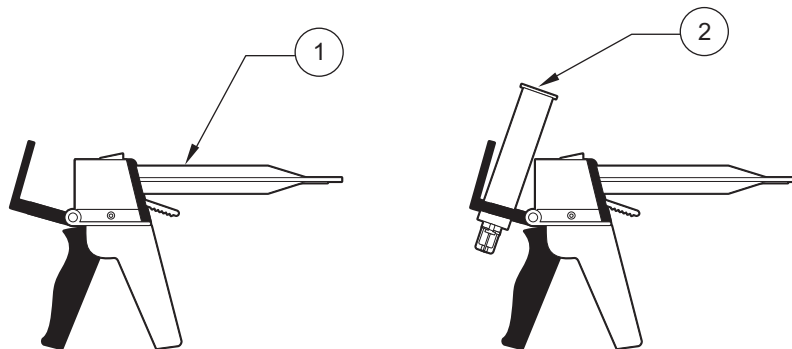

Figure 20 Loading the Cartridge into the Dispensing Gun
3. Load the oil cartridge into the dispensing gun (Figure 20).